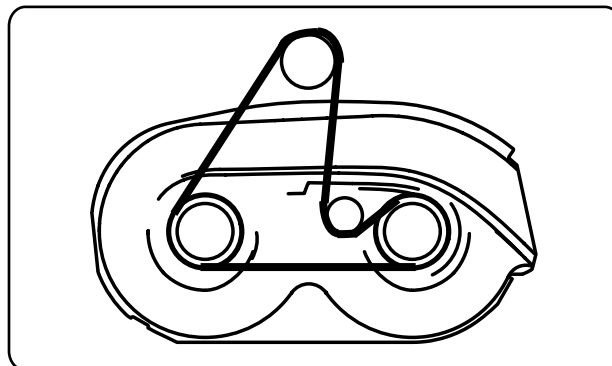

Figure 8.16
- For a 38" deck, See Figure 8.16.